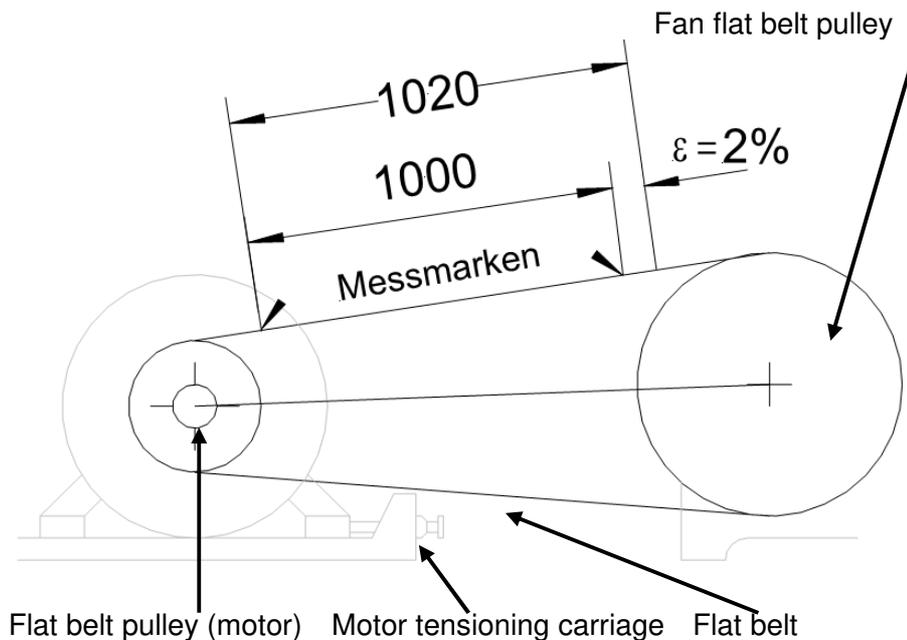

Figure 4.16: Measurement marks and elongation for determining the correct measurement mark spacing
meter). This vibration in Hz is to be adjusted to the specified value (documentation/type plate). The measurement point lies in the centre of the drive belt (see **Figure 4.16**).
4. Tension flat belts by increasing the shaft spacing (motor tensioning carriage) until the distance between the measurement marks is increased by the value of the elongation  $\varepsilon$  (see **Figure 4.16**).